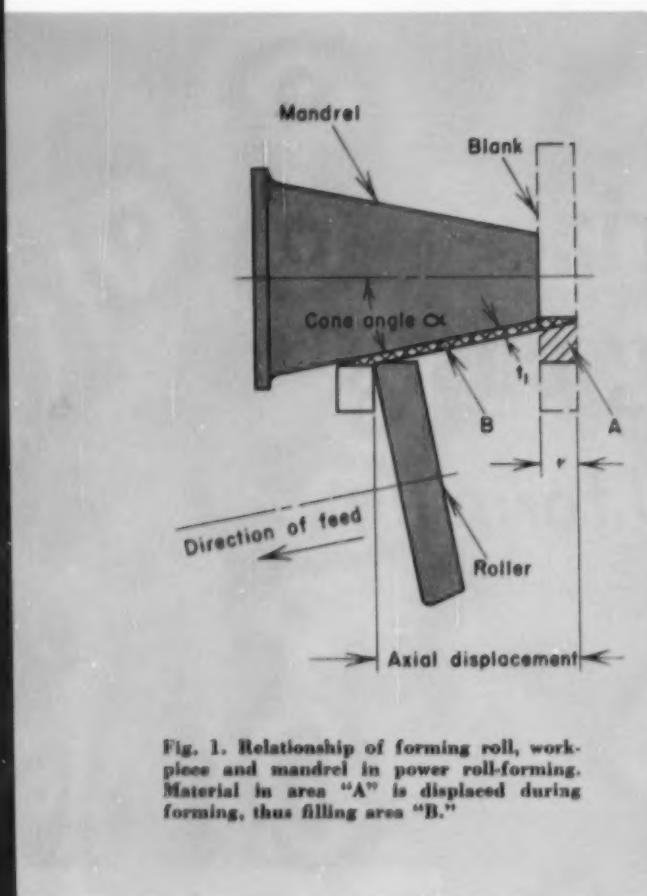

Fig. 1. Relationship of forming roll, workpiece and mandrel in power roll-forming. Material in area "A" is displaced during forming, thus filling area "B."
**P**OWER ROLL FORMING is a cold rolling process in which material in a blank is caused to flow over a rotating mandrel. Forming is accomplished by one or more hardened steel rollers. *Fig. 1*, which travel parallel to, and at a pre-set distance from, the surface of the mandrel during forming. As the mandrel and workpiece are revolved, the rollers, which may be either hydraulically or mechanically actuated, displace the blank material in a spiral manner. Contours of the formed workpiece are identical with those of the mandrel and wall thickness can be closely controlled.